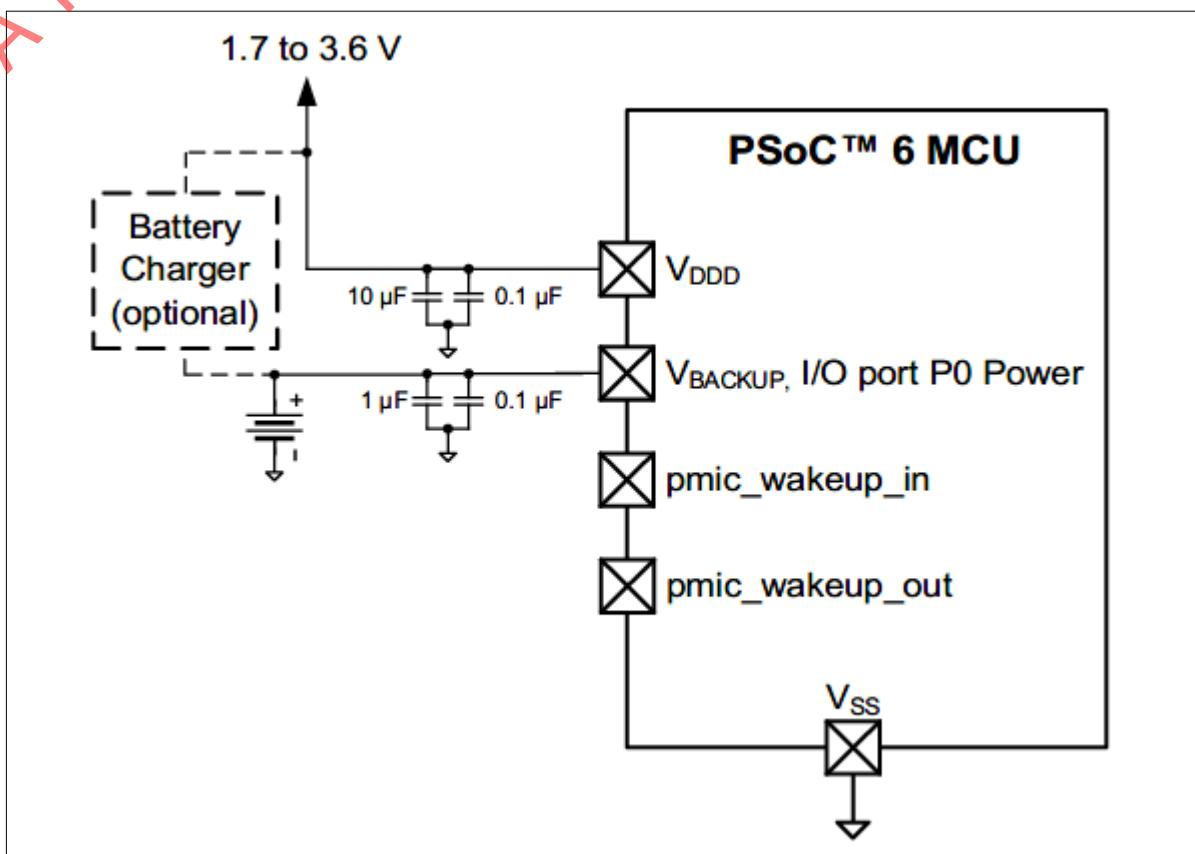

Figure 390 Backup domain battery connection
3. **V_{BACKUP} powered by battery** – Figure 390 demonstrates a battery-powered V_{BACKUP} . When a battery supplies V_{BACKUP} , it is important to NOT use the supercapacitor charge circuit because it provides no battery safety mechanisms. If the battery is rechargeable, an external board-level recharge circuit can be provided for the battery-specific charge requirements